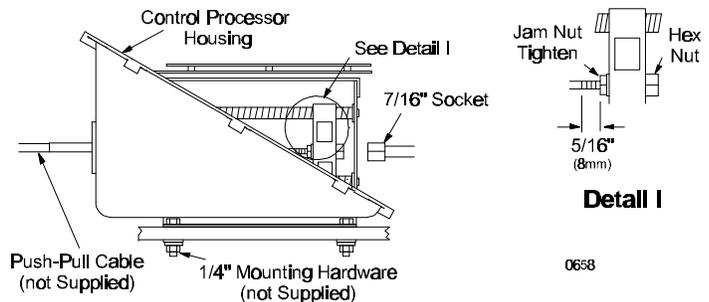

Fig. 5
G) Connect the push-pull cable to the hex nut (See Fig. 5, Detail I). Use a 7/16 inch socket to turn the hex nut onto the cable rod end until there is approximately 5/16 inch (7,9mm) of thread showing beyond the jam nut.